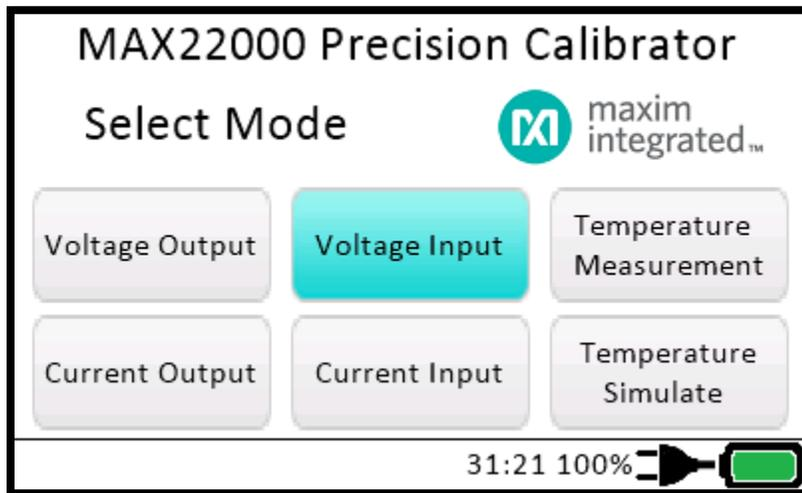

Figure 12. MAXREFDES183# Voltage Input mode.
14. To measure voltage, click on the **Voltage Input** button (**Figure 12**).